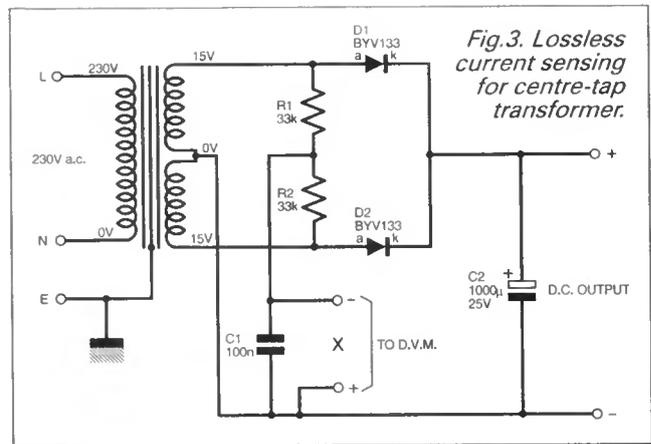

Fig.3. Lossless current sensing for centre-tap transformer.
**C**ENTRE-TAPPED dual rectifiers instead of full-wave bridges are still used in some applications despite the poorer transformer utilisation and efficiency of the circuit. A simple way in which to sense the output current of this type of power supply, without the need to resort to "lossy" shunts or expensive Hall-effect devices, is shown in circuit diagram Fig.3.
A centre-tap rectifier draws d.c. current from each transformer secondary winding, whilst the primary current is alternating. This d.c. current corresponds to the average d.c. current and causes a voltage drop in the copper windings which can be measured. In Fig. 3, the winding resistance is actually used as a shunt resistor for the ammeter, so the apparent amp reading will increase with winding temperature by some 25 per cent.